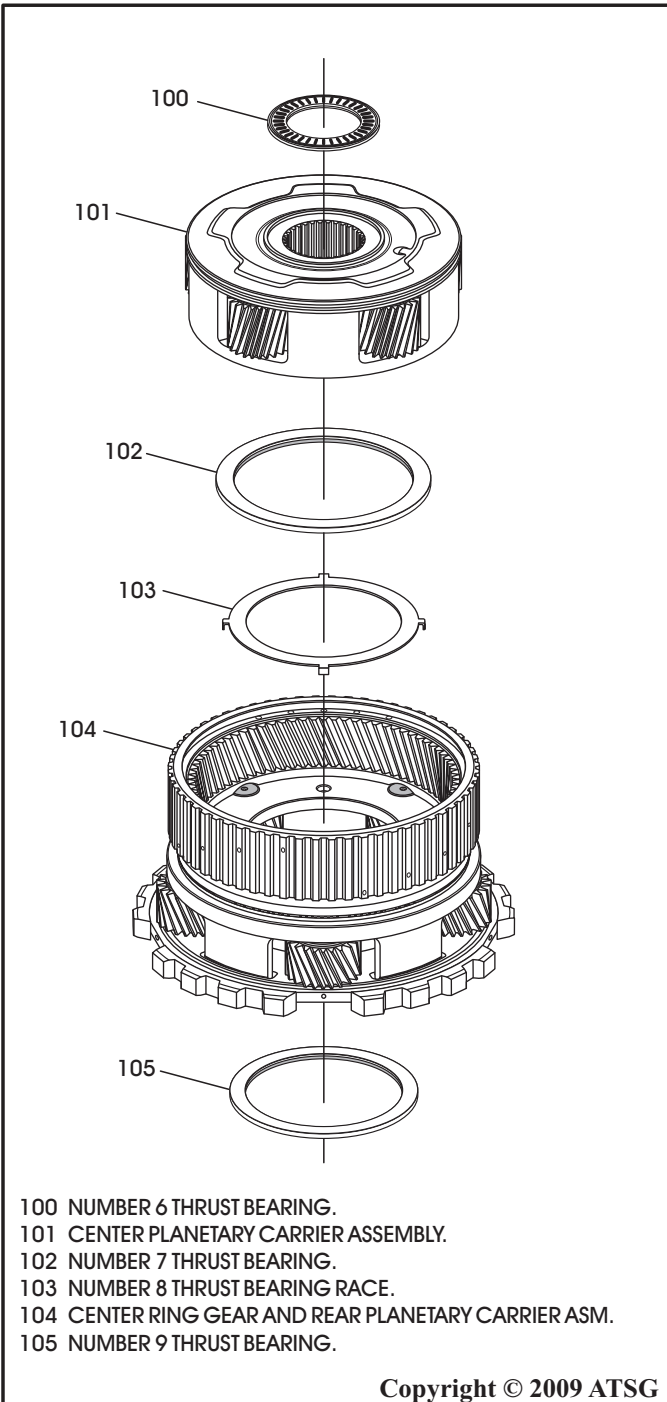

Figure 48
26. Separate the center and rear planetary carriers, as shown in Figure 48.
27. Separate the number 6 thrust bearing, as shown in Figure 48.
28. Separate the number 7 thrust bearing, as shown in Figure 48.
29. Separate the number 8 thrust bearing race, as shown in Figure 48.
30. Separate the number 9 thrust bearing, as shown in Figure 48.